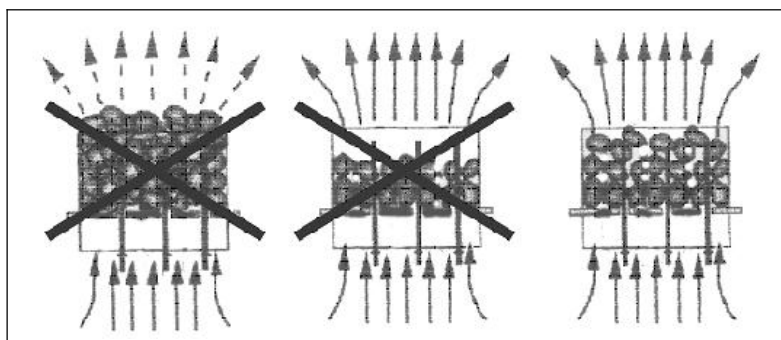

Figure 7: (PILING OF THE SAUNA STONE)
- **The stones should not be placed too tightly or too loosely. The stones should averagely cover the heater element. (See figure 7).**